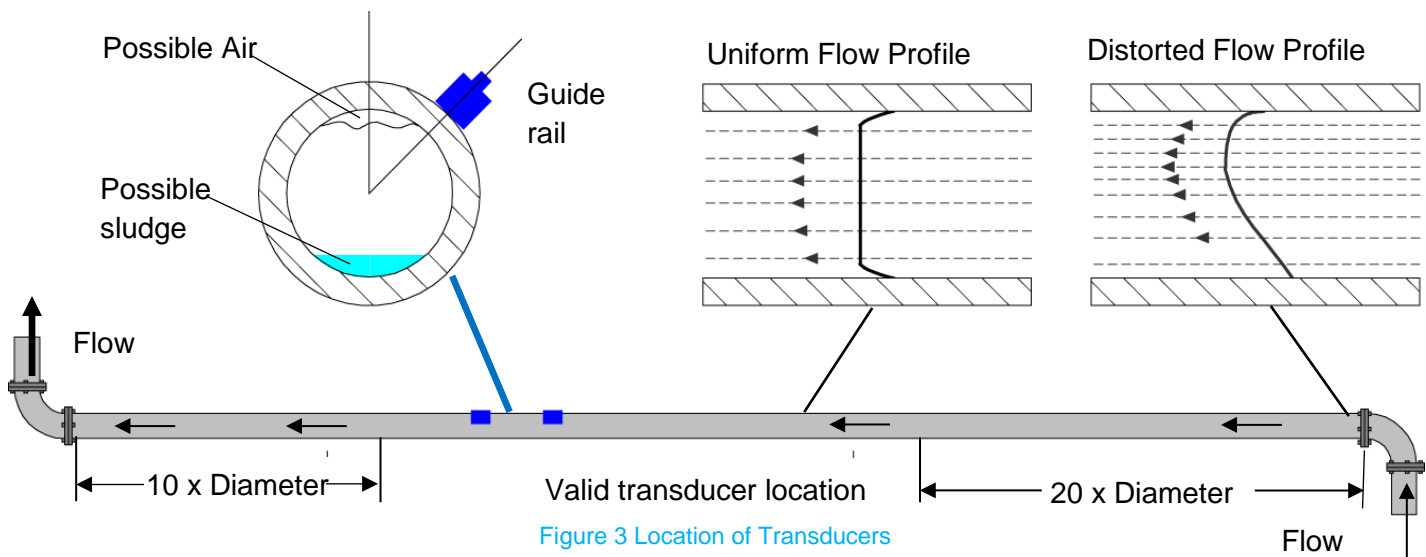

Figure 3 Location of Transducers
For optimum reliability on boiler applications, the flow measurement needs to be made on the cold side of the system. For optimum reliability in chiller applications, the flow measurement needs to be made on the warmer side of the system, making sure sensors are positioned as in figure 3 above.
To obtain the most accurate results the condition of both the liquid and the pipe must be suitable to allow ultrasound transmission along the predetermined path. It is important that liquid flows uniformly within the length of pipe being monitored, and that the flow profile is not distorted by any upstream or downstream obstructions. This is best achieved by ensuring there is a straight length of pipe upstream of the transducers of at least 20 times the pipe diameter, and 10 times the pipe diameter on the downstream side, as shown in Figure 3. Flow Measurements can be made on shorter lengths of straight pipe, down to 10 diameters upstream and 5 diameters downstream, but when the transducers are mounted this close to any obstruction the resulting errors can be unpredictable.
1. Before attaching the transducers, first ensure that the proposed location satisfies the distance requirements shown in Figure 3 otherwise the resulting accuracy of the flow readings may be affected. The unit is preconfigured for the application as follows :-